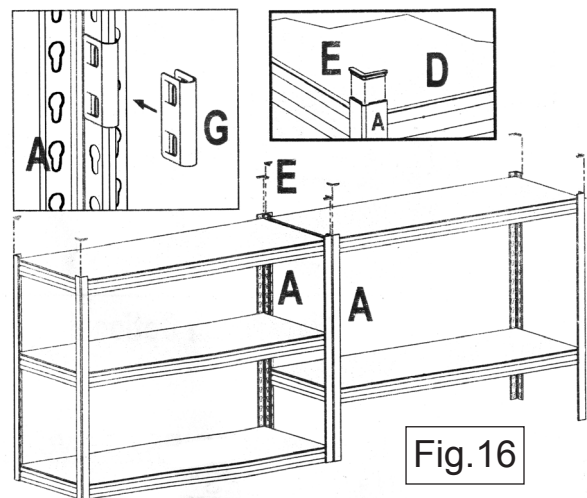

Fig.16
4.14 See Fig.16. Place the two units end to end and join them together using the 2 post clips (G). Insert a post cap (E) into the top of each 'A' post.